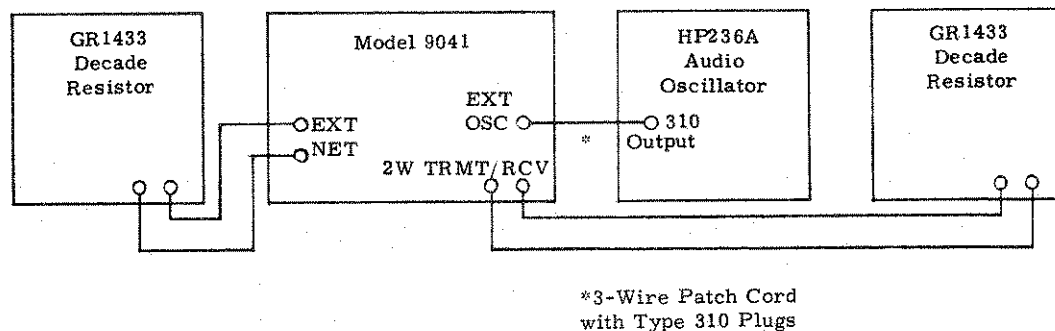

Figure 3-6. Internal Hybrid Balance Check, Test Setup
3.11 This procedure checks the balance of the internal resistive hybrid (used as a return loss bridge). An HP236A Audio Oscillator is used as an external signal source. Two GR1433 Decade Resistors are also used for this check. Figure 3-6 shows the test setup.